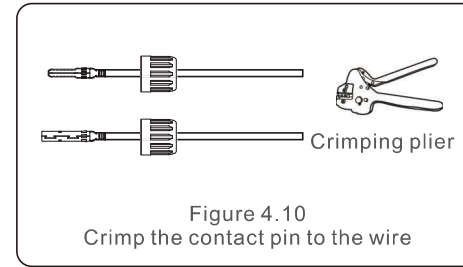

Figure 4.10
3. Crimp the contact pin to the wire using a proper wire crimper. (see Figure 4.10)